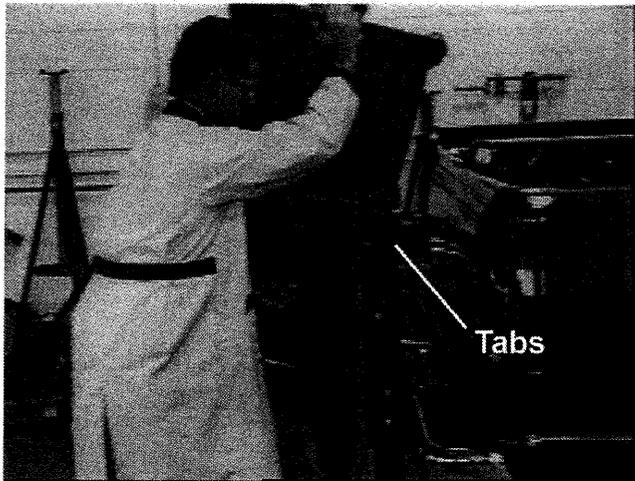

Figure 11
2. Position tabs on the hopper assembly over the top of the installed secondary frame assembly and lower the hopper assembly. See Figure 11.